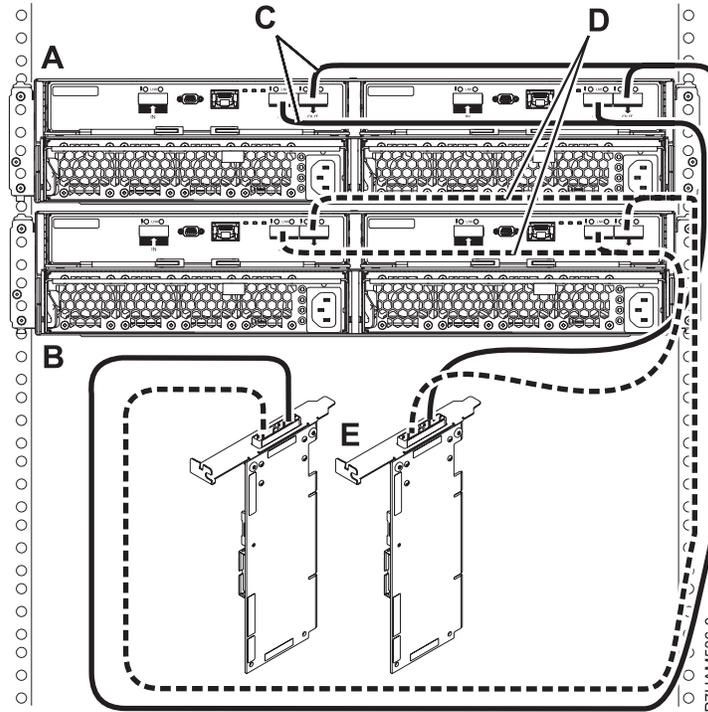

Figure 38. Mode 1 connection of two 58/87 disk drive enclosures by using YO cables to a SAS adapter pair
12. Perform the mode 1 connection of two 58/87 disk drive enclosures (**A and B**) by using YO cables (**C and D**) to a SAS adapter pair (**E**) as shown in Figure 38 on page 72.